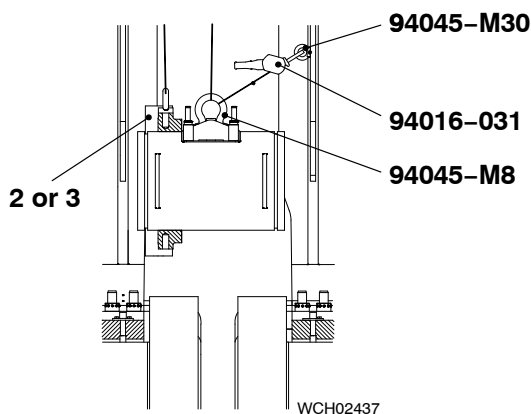

Fig. 6
- 28) Attach the two eye bolts (94045 M20) and the the chain (94325) to the crosshead pin (4).
- 31) Operate the manual ratchet (94016 031) to pull the crosshead pin (4) until the guide shoe (2 or 3) is clear.
- 34) Attach the eye bolts (94045 M20), chain (94325), shackle (94018B) and manual ratchet (94016 031) to the other side of the crosshead pin (4).
- 36) When the crosshead (4) is in the first or last cylinder position, do step 37) to step 43).
- 37) Attach the eye bolt to (94045 M30, Fig. 6) an applicable hole in the column.